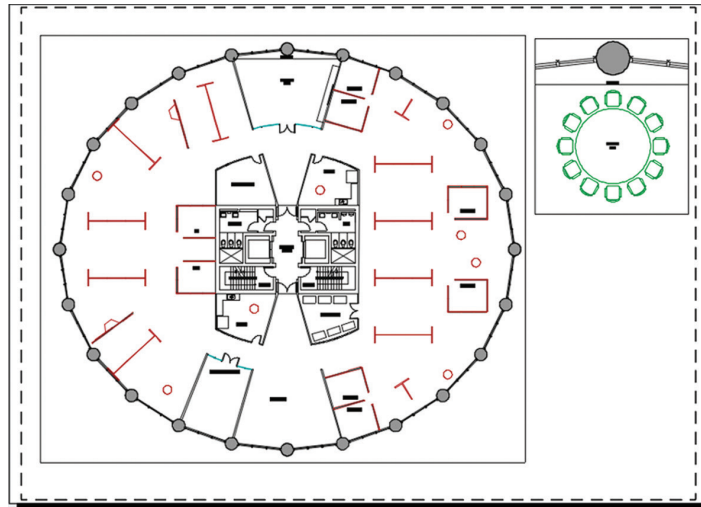

FIGURE 13.22 Furniture is visible in the viewport on the right but not in the left viewport, whose layer properties have been overridden.
4. Double-click the layout outside the viewport to switch back into paper space. The furniture and furniture systems disappear from the current viewport, but the conference room's round table is still visible in the viewport on the right of Layout2 (see Figure 13.22). Close the Layer Properties Manager.